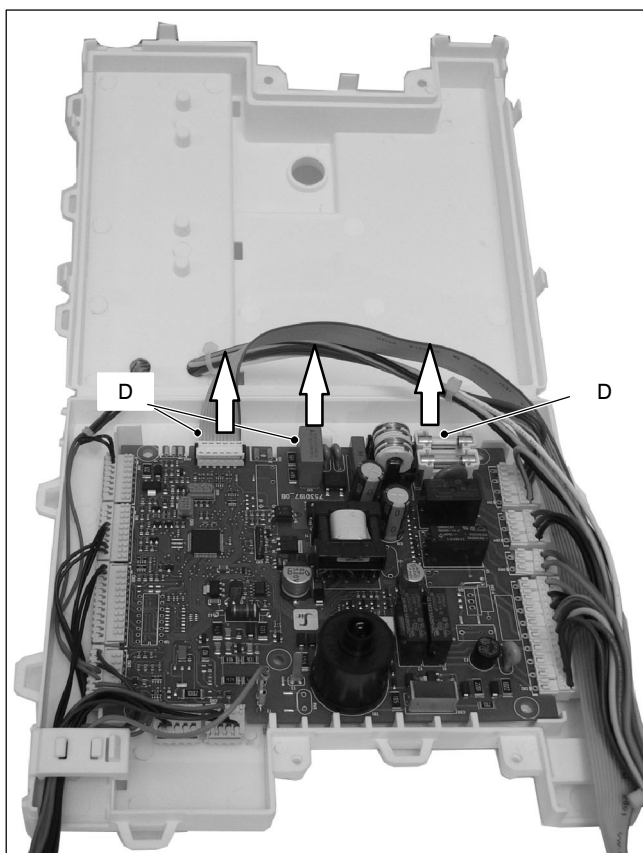

Fig. 6.11
- 4 Delicately flex the hooks *D* in the directions indicated (Fig. 6.11) in order to release the circuit from the box.